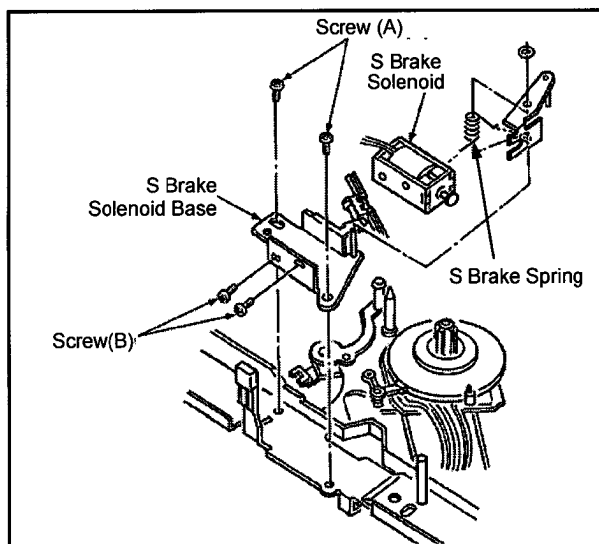

Fig.4-19-1
2. Unscrew the 2 screws(A),and remove Supply Brake Solenoid Base Unit as shown in Figure 4-19-1.
3. Unscrew the 2 screws(B),and remove Supply Brake Solenoid as shown in Figure 4-19-1.